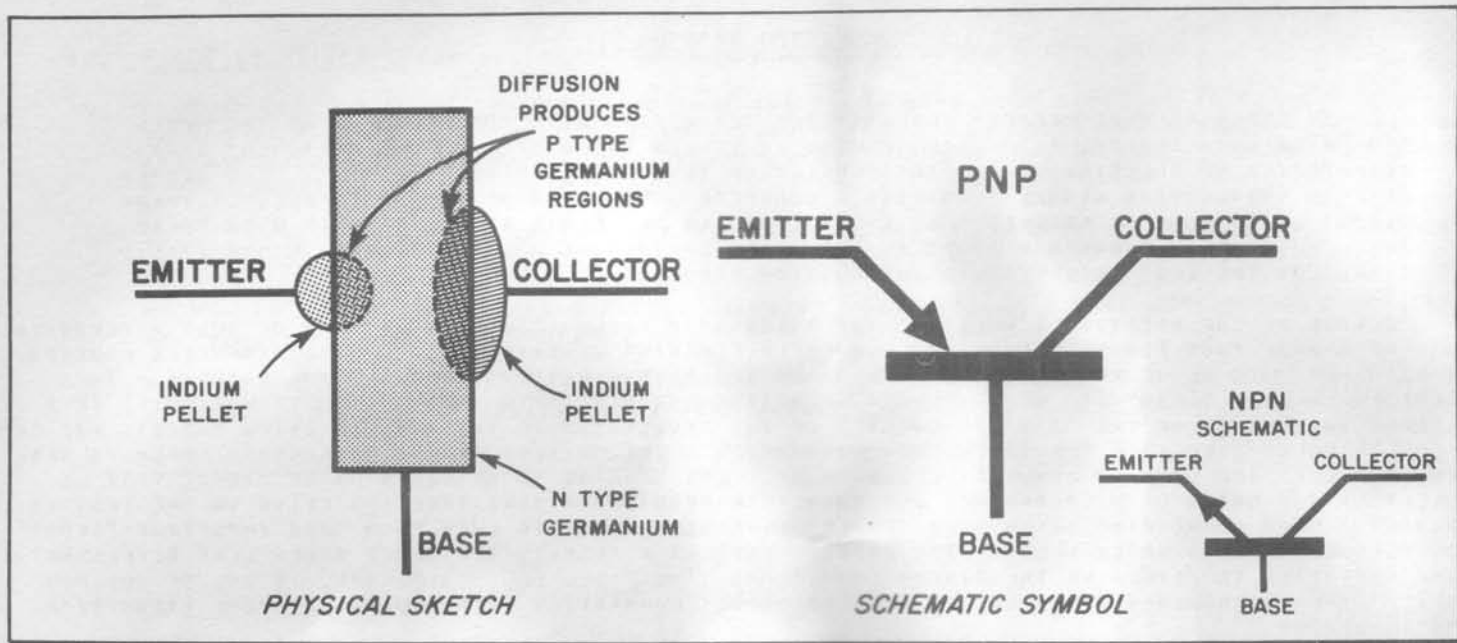
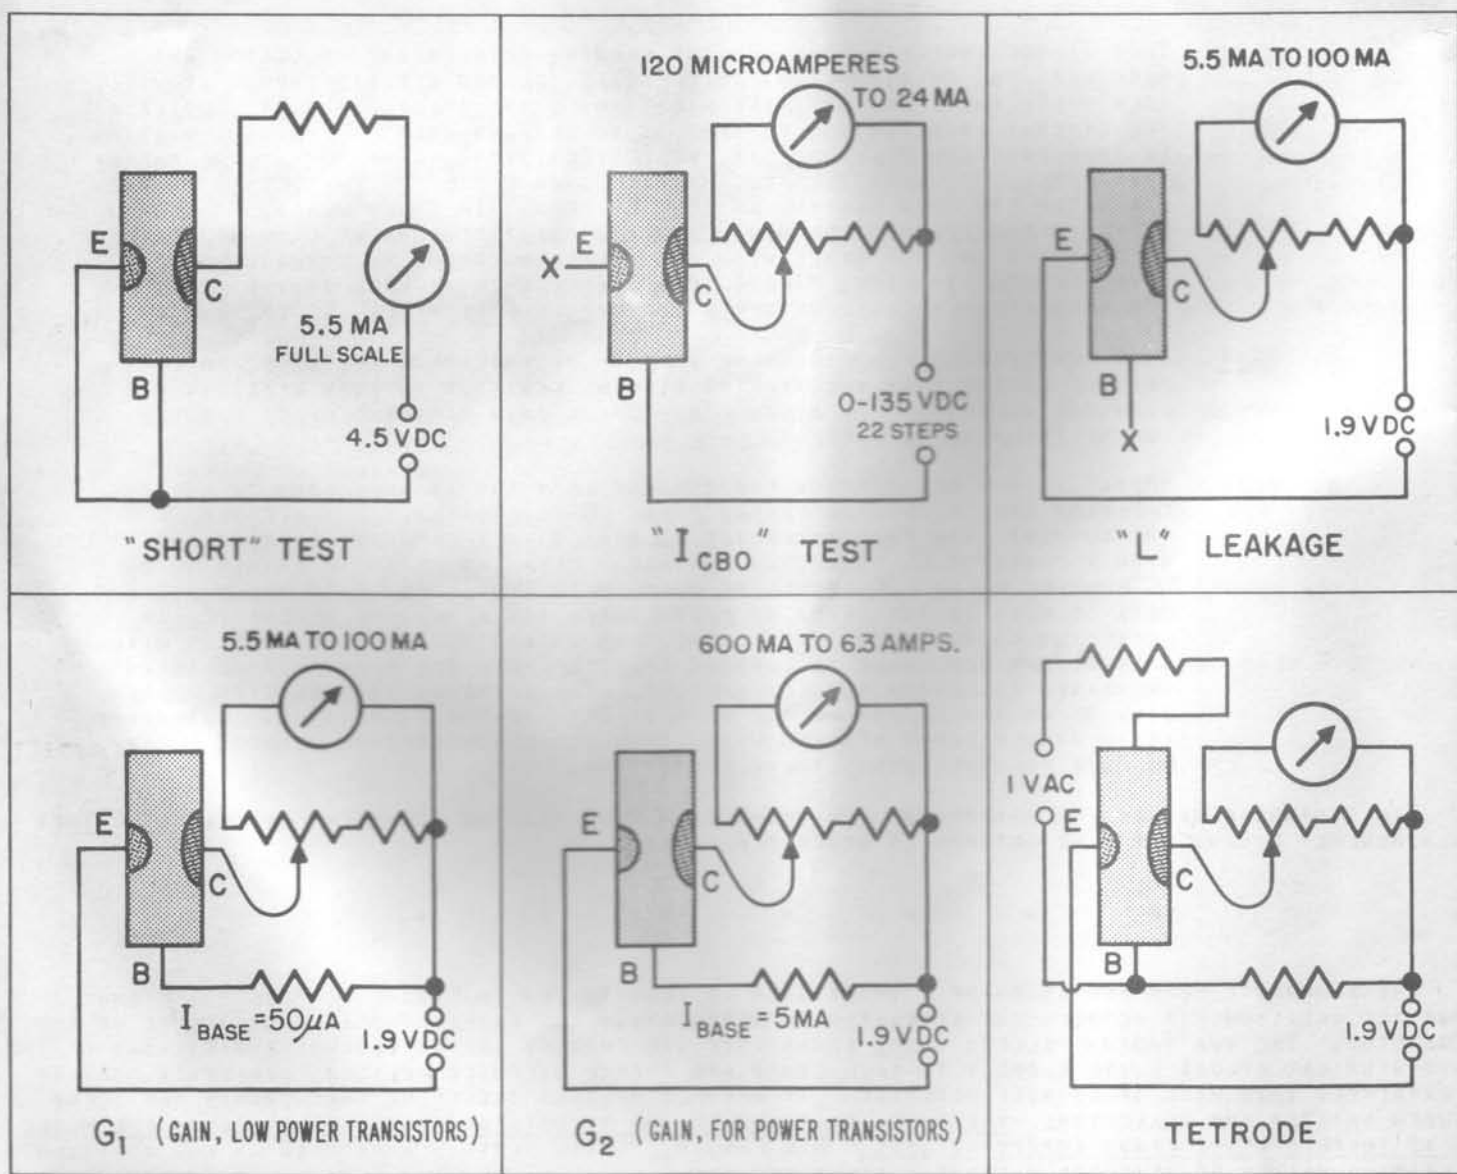

FIG. 1 DIFFUSED JUNCTION PNP TRANSISTOR
FIG. 2 BASIC CIRCUITS • 660 TRANSISTOR TESTS
1. I_{CBO} - THIS SYMBOL INDICATES THE CURRENT FLOWING BETWEEN THE COLLECTOR AND BASE WITH THE EMITTER OPEN. SEE FIG. 2, SECOND ILLUSTRATION. IT WILL BE NOTICED THEREFORE THAT THE FIRST TWO SYMBOLS AFTER THE "I" INDICATE THE CIRCUIT IN WHICH THE CURRENT IS TO BE MEASURED: THE SYMBOL MISSING IN THIS PARTICULAR EXAMPLE IS THE "E" (EMITTER). THE "O" AT THE END OF THE SYMBOL INDICATES THAT THE MISSING SYMBOL ("E" IN THIS CASE) IS OPEN CIRCUITED FOR THIS PARTICULAR TYPE OF TEST. IN OTHER WORDS, IF WE HAD A CASE WHERE THE TEST REQUIRED A MEASUREMENT OF CURRENT FLOWING BETWEEN THE EMITTER AND THE BASE, WITH THE COLLECTOR OPEN, THE SYMBOL WOULD READ " I_{EBO} ". IN FACT, " I_{EBO} " IS A CHARACTERISTIC USED BY THE TRANSISTOR MANUFACTURER FOR SOME TYPES OF TESTS. (SEE PAGES 15, 16, AND 17)
THE SCHEMATIC REPRESENTATION OF A TRANSISTOR IS ILLUSTRATED IN FIGURE 1, PAGE 4. FIGURE 1 SHOWS THE RELATIONSHIP BETWEEN THE SCHEMATIC REPRESENTATION AND ACTUAL PHYSICAL STRUCTURE OF THE TRANSISTOR. THE TWO INDIUM PELLETS WHICH CONSTITUTE THE EMITTER AND COLLECTOR TERMINATIONS OF THE TRANSISTOR ARE SPACED QUITE CLOSELY TO EACH OTHER AND CREATE DIFFUSED REGIONS, SEPARATED ONLY BY AN EXTREMELY THIN WALL OF CRYSTAL MATERIAL. IT BECOMES OBVIOUS THEREFORE THAT SHORTS MAY OCCUR BETWEEN EMITTER AND COLLECTOR: THE "SHORT" POSITION OF THE TRANSISTOR TEST FACILITIES OF THE MODEL 660 IS THEREFORE THE FIRST IMPORTANT TEST. SEE FIG. 2, "SHORT TEST". A SHORTED OR LOW RESISTANCE TRANSISTOR SHOULD BE REJECTED WITHOUT FURTHER TESTING.
AS NOTED PREVIOUSLY, ICBO (COLLECTOR CUT-OFF CURRENT), WHICH IS MEASURED PER FIG. 2, SECOND ILLUSTRATION, IS THE BASIC TRANSISTOR TEST PARAMETER, AND IS THE SECOND TEST PERFORMED ON ALL TRANSISTORS BY THE 660.
THE THIRD TRANSISTOR TEST IS DESIGNATED AS "L" OR LEAKAGE. THE BASIC CIRCUIT FOR THIS LEAKAGE TEST IS INDICATED IN FIG. 2, THIRD ILLUSTRATION, AND PROVIDES A METER READING WHICH IS ESSENTIALLY THE ICBO OF THE TRANSISTOR MULTIPLIED BY THE BETA (GAIN). TEST POSITION "L" ON THE "D" SWITCH OF THE 660 SETS UP THE INSTRUMENT FOR THIS LEAKAGE TEST. THIS LEAKAGE TEST IN ITSELF IS OF NO SPECIAL SIGNIFICANCE INsofar AS THE CONDITION OF THE TRANSISTOR IS CONCERNED. IT MERELY SERVES AS AN INITIAL READING TO BE SUBTRACTED FROM THE NEXT TEST WHICH IS DESIGNATED ON THE PANEL AS "G₁" FOR "GAIN". SEE FIG. 2, FOURTH ILLUSTRATION.